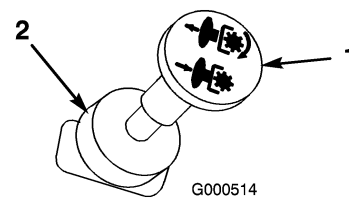

Figure 8
3. Move the PTO (power take off) to Off (Figure 8).
2. Move the PTO to Off (Figure 8).